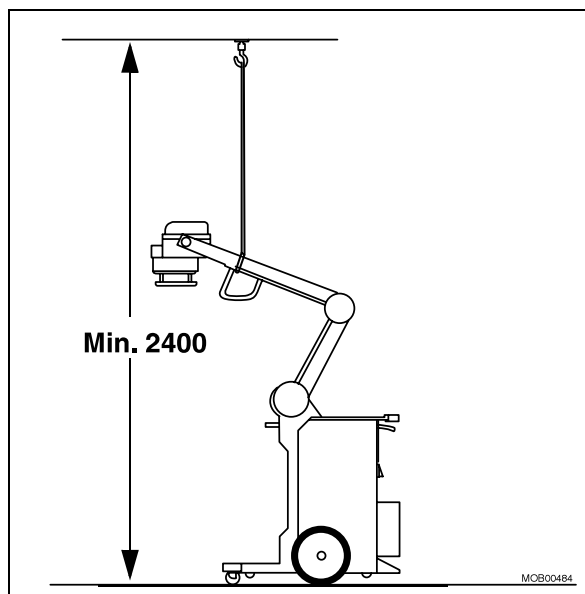

Fig. 64: Releasing the arm
- Lift the single tank to maximum height and secure it with the rope to the ceiling beam (Fig. 64 / p. 73).